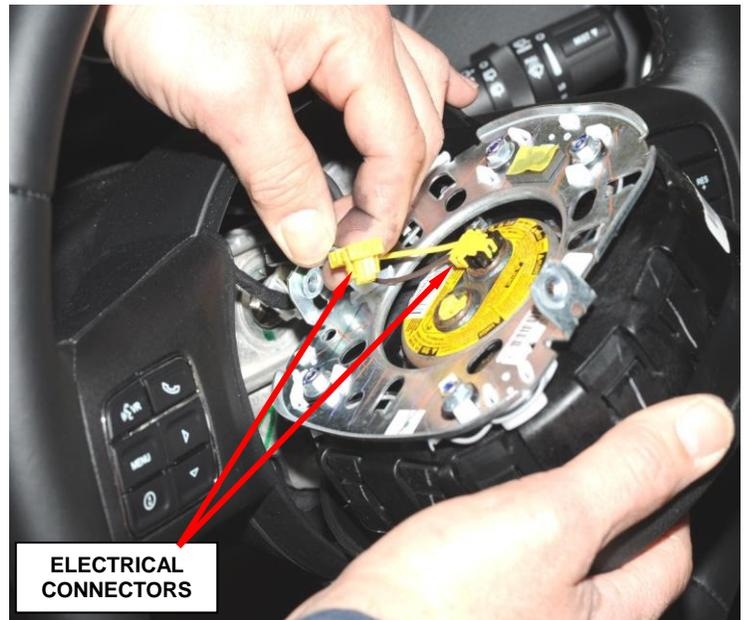

Figure 1 – Airbag Module Electrical Connectors
4. Separate the driver airbag module from the steering wheel and disconnect the two airbag electrical connectors (Figure 1) and the one horn electrical connector. Then set the driver airbag module aside.